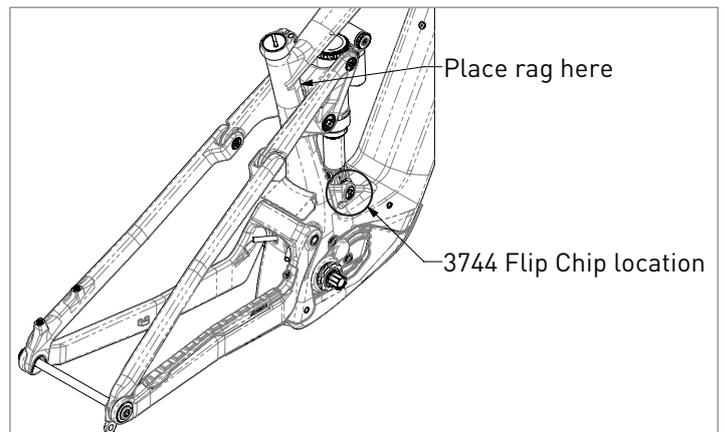

Figure 3
**CAUTION:** Damage to the frame's finish may occur when the shock link bolt is removed due to over-extension of the linkage and rear swing arms. Contact can occur at the front of the seat tube by the links, at the chainstays by the chainring, and at the rear axle Split Pivot area. As noted in Figure 3, place a folded-up rag, a small block of foam, or cardboard between the front of the seat tube and the back of the control link bridge so that the linkage does not over-extend.